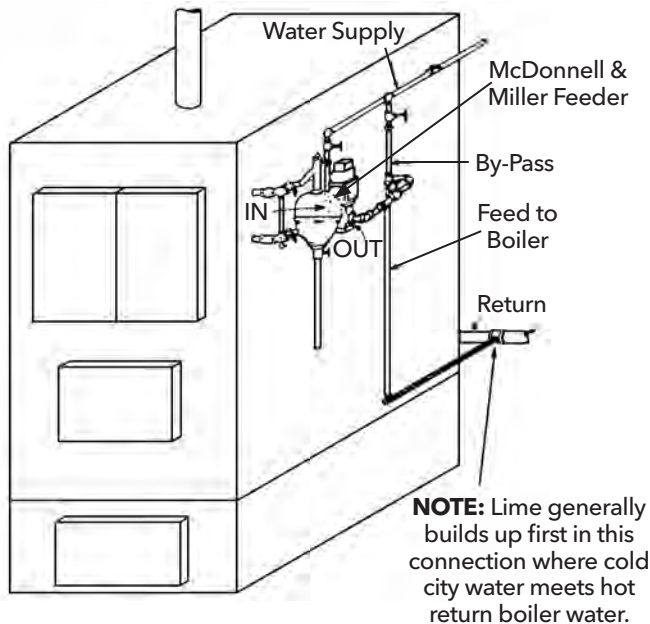

Figure 92
If no water trickles from the broken union, the valve is okay and the cause lies elsewhere. A common cause of overfeeding is shown in **Figure 92**. If the line from the feeder to the boiler becomes partially plugged, a back-pressure builds up which holds the valve off its seat after it opens. Opening valve (2) with the union (3) broken should show a full stream of water if the fill line is clean. A mere trickle indicates a plugged line. The supply line should be taken down and cleaned or better still, replaced when this condition is indicated.